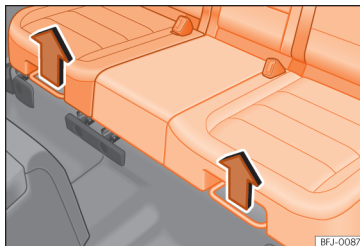

Fig. 140 Under the bench of the rear seat: adjustment lever.
- Pull the right or left lever, in the direction of the arrow » **Fig. 140**, and move the part corresponding to the seat to the front or the back.